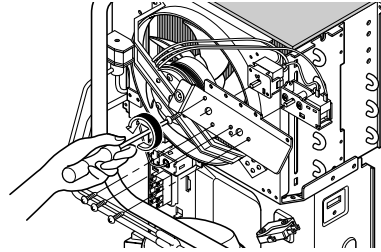

Figure 9
3. Remove 4 screws which fasten the rotary switch and humidistat. (See Figure 9)